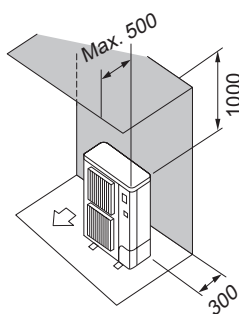

Fig. 3-7
- Obstacles at rear and above only (Fig. 3-7)